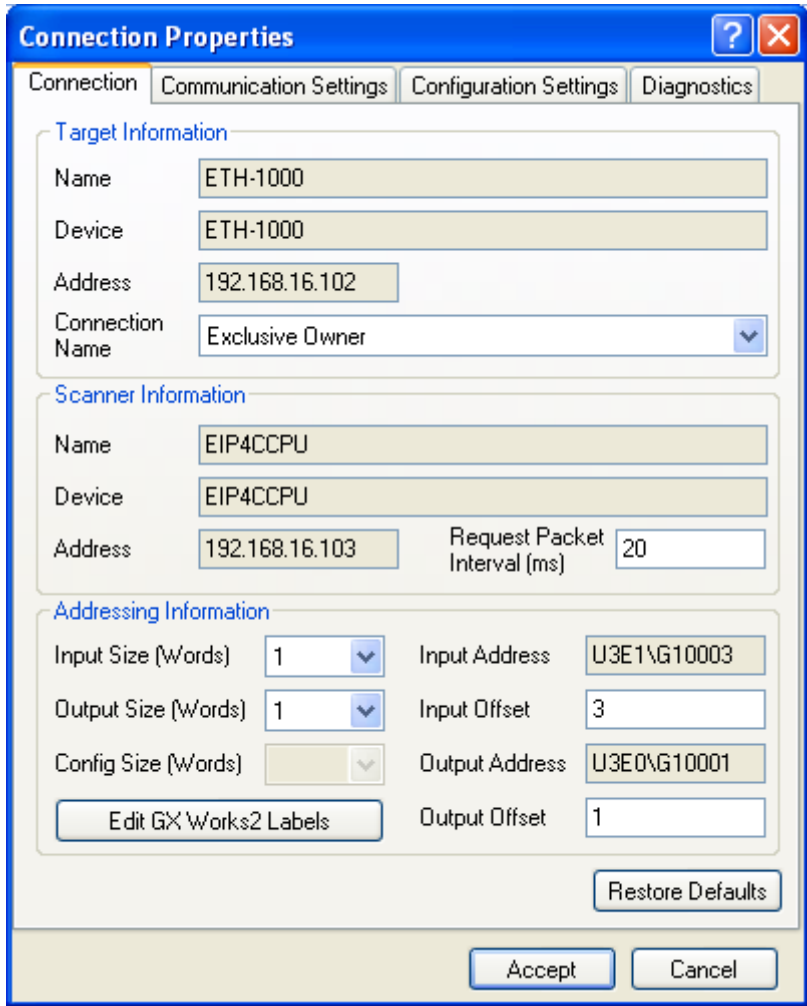
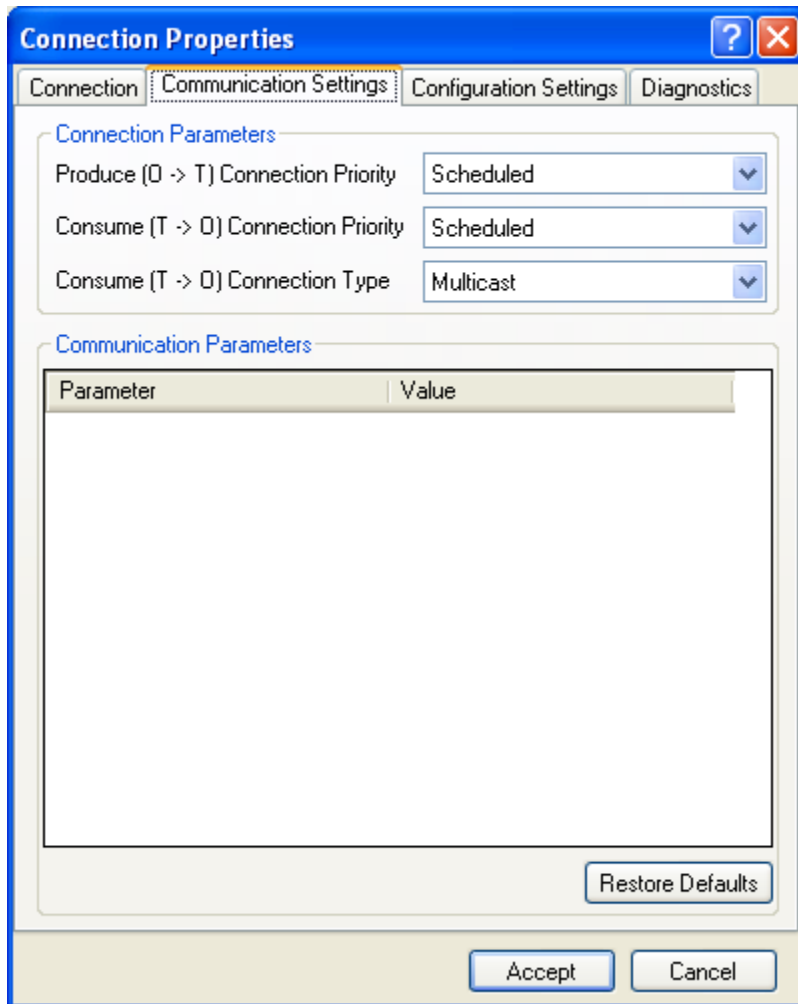
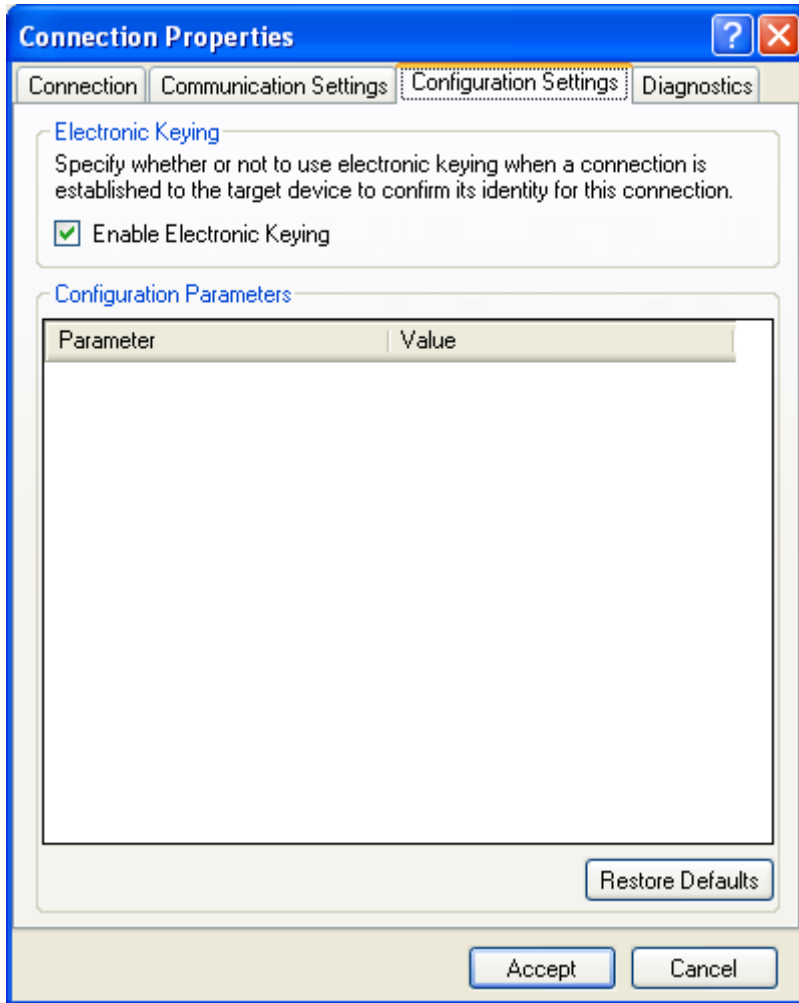
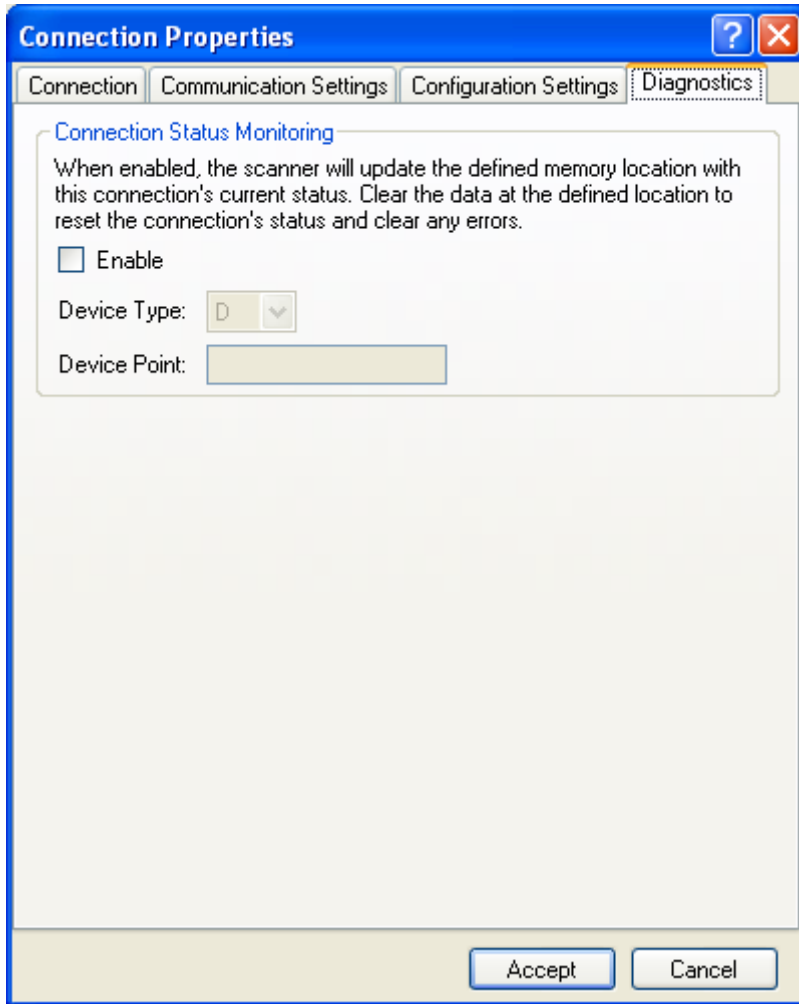

Figure 37: Connection Properties Connection Tab
Figure 39: Connection Properties Communication Settings
Figure 40: Connection Properties Configuration Settings
Figure 41: Connection Properties Diagnostics
Review and configure the Connection Properties. The Connection Properties are configured with the default settings as specified by the device EDS file. Please consult the device vendor for more information regarding configuration data. Refer to Figure 37, Figure 39, Figure 40, and Figure 41.
- Configuration of Diagnostics is optional (refer to Figure 41). It is highly recommended to enable Diagnostics to initially determine if the connection is successful.